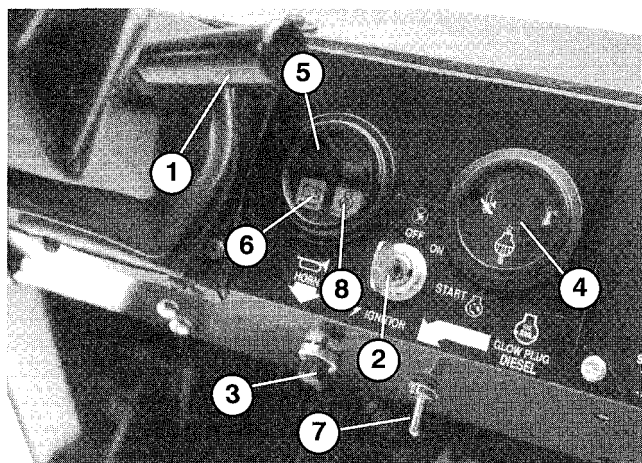

Figure 22
Tilt Steering Lever (Fig. 22) – Lever on right side of console allows steering wheel to be adjusted for operator comfort.
Coolant Temperature Gauge (Fig. 22) – Registers coolant temperature in engine. Operates only when ignition switch is in On position.
Horn Button (Fig. 22) – Pressing button activates horn.
Engine Low Oil Pressure Light (Fig. 22) – Light glows if engine oil pressure drops below a safe level while engine is running. If light flickers or remains ON, stop vehicle, turn off engine and check oil level. If oil level was low, but adding oil does not cause light to go out when engine is restarted, turn engine off immediately and contact your local TORO distributor for assistance.
Glow Plug Switch and Indicator (Fig. 22) — Use to preheat engine cylinders prior to cold engine starting procedures — cylinders are preheated automatically during warm engine start operation. For cold starting, push switch lever upward and hold while watching indicator. Indicator will glow orange when the glow plugs are activated. Length of time necessary to preheat cylinders should be determined by atmospheric temperature; refer to Starting /Stopping Engine.
Ignition Switch (Fig. 22) –The ignition switch, used to start and stop the engine, has three positions: OFF, ON / Preheat and START. Rotate key clockwise — START position — to engage starter motor. Release key when engine starts. The key will move automatically to the ON position. To shut engine off, rotate key counterclockwise to OFF position.
Charge Indicator (Fig. 22) – Illuminates when battery is being discharged. If light illuminates during operation, stop vehicle, turn Off engine and check for possible causes, such as alternator belt.
5. When temperature is below 15°C (60°F), push glow plug switch upward to ON position (Fig. 22) and hold for suggested interval.